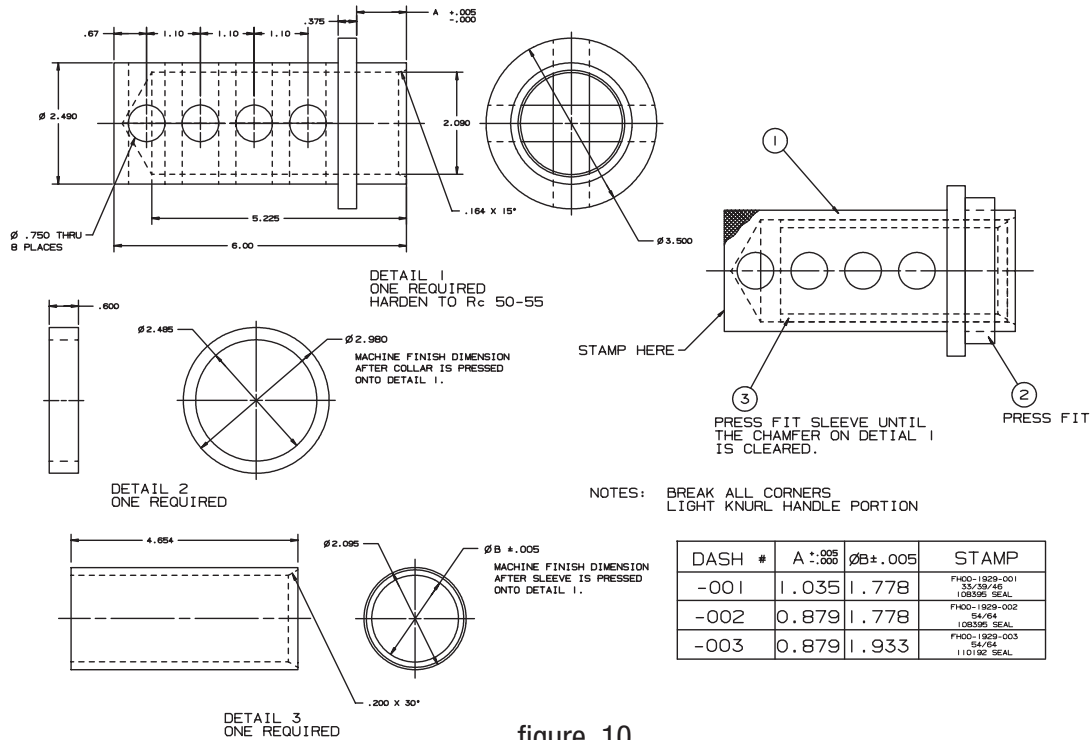

figure 10
**112** Using the installation tool (see figure 10) and a mallet, push the seal until the tool bottoms on the mounting flange.